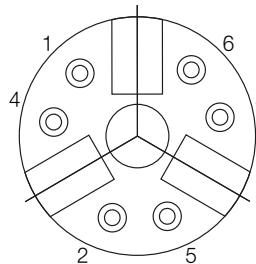

Fig.5
척 체결볼트를 균등히 체결하여 주십시오. (Fig.5) 1→2→3→4→5→6
(4) Mount the chuck to the spindle (back plate) Turn the joint handles so that the chuck is properly attached to the spindle mounting face of lathe. Uniformly tighten chuck mounting bolts in the order of 1,2,3,4,5 and 6 as shown in Fig.5